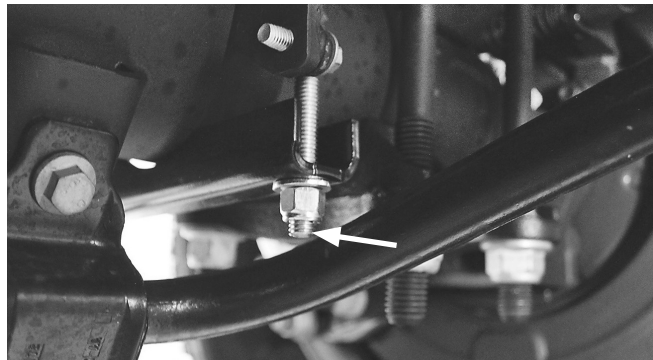

Fig. 37
10. On vehicles that have a sway bar, it will be necessary to cut the front carriage bolt just below the nut so it does not contact the sway bar (Fig. 37).